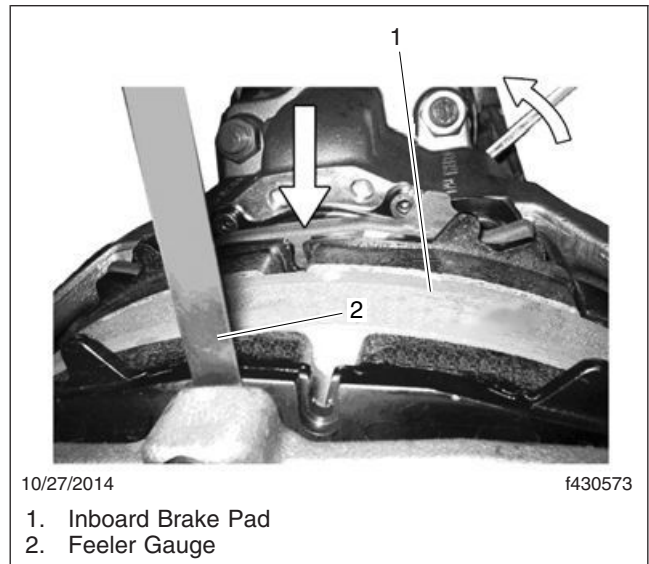

Fig. 8, Adjusting the Clearance
- 22.5 Using a 0.047 inch (1.2 mm) feeler gauge, adjust the clearance. See the arrow in Fig. 8. Insert the feeler gauge between the brake pad of the rim side and the brake caliper.